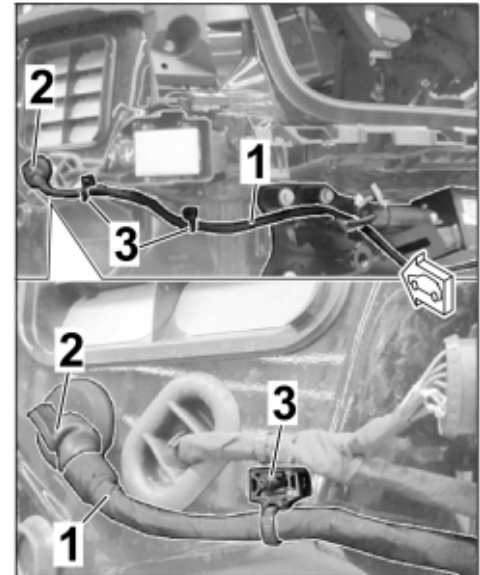

Figure 8
- 2.2.3 Install tie-wraps for wire harness (2 x) on threaded bolts on the outside of the vehicle ⇒ *Figure 8*.